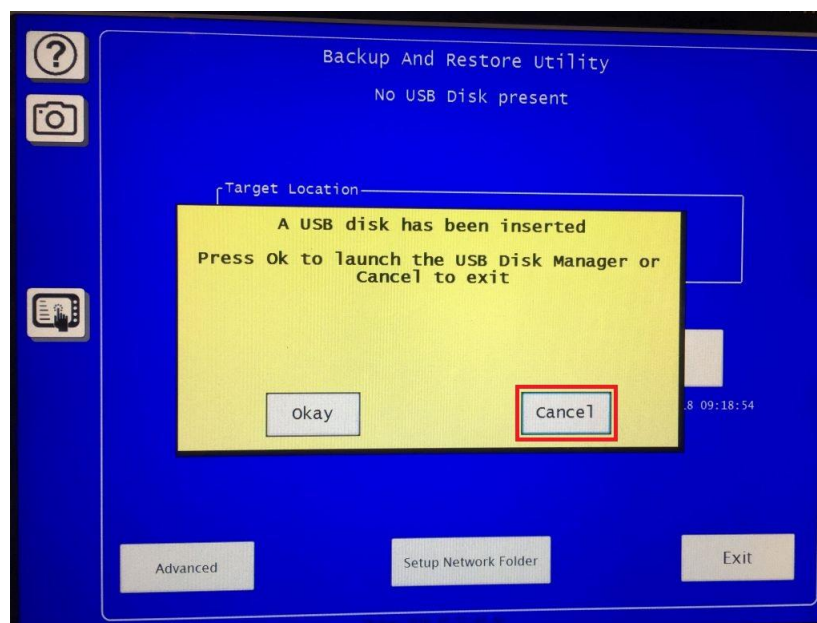

Figure 4 – USB Disk has been inserted message
- Insert the USB disk into the SmartPAC PRO USB connector on the front of the unit. When the “USB disk has been inserted” message pops up, press the Cancel button (Figure 4 below)